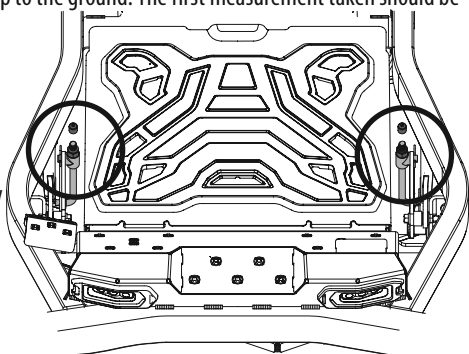

Figure 43
- a. Remove the end cap on both front deck height adjust rods and save for later re-installation. See Figure 43.
- b. Rotate both front nuts clockwise to raise the front deck pitch or counter-clockwise to lower the front deck pitch, depending on the needed adjustment. Adjust each nut equally. See Figure 43.